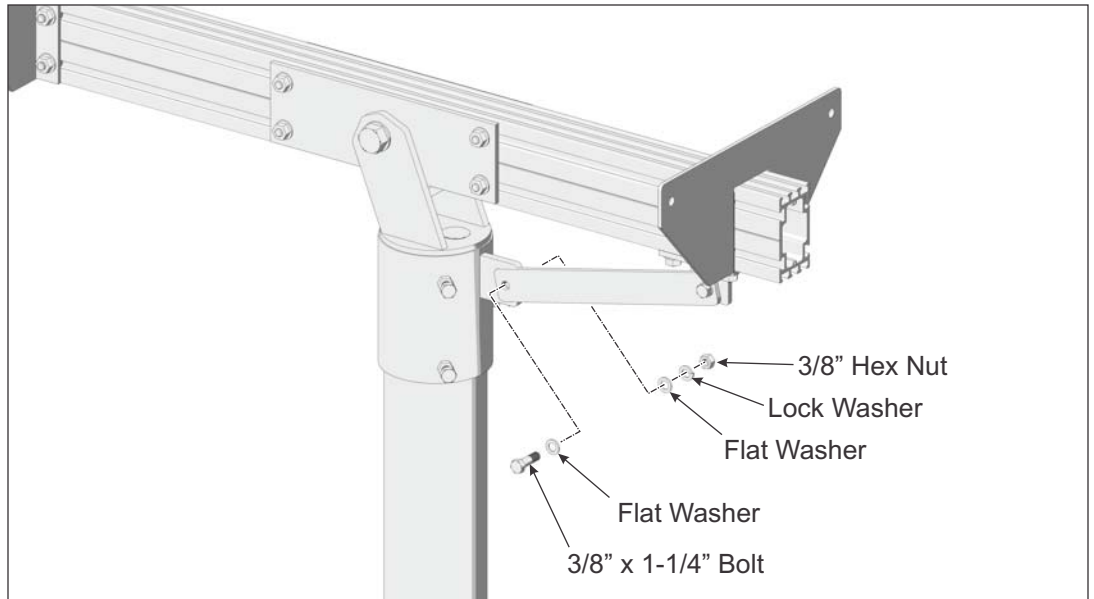

Figure 2-3: Securing Support Bar to Mounting Sleeve
- G. Slide the Support Bar Mounting Tab to align the mounting holes of the Support Bar with its Pivot Tab on the Mounting Sleeve. Slide the Support Bar over the Pivot Tab. Insert the 3/8" x 1-1/4" bolt and one flat washer through the Support Bar and Mounting Tab and secure it with the remaining flat washer, lock washer and hex nut. **Torque hardware on both ends of Support Bar at 32-34 ft.-lbs. Torque the 3/8" Flange Nuts at 32-34 ft.-lbs.** (See Figure 2-3)